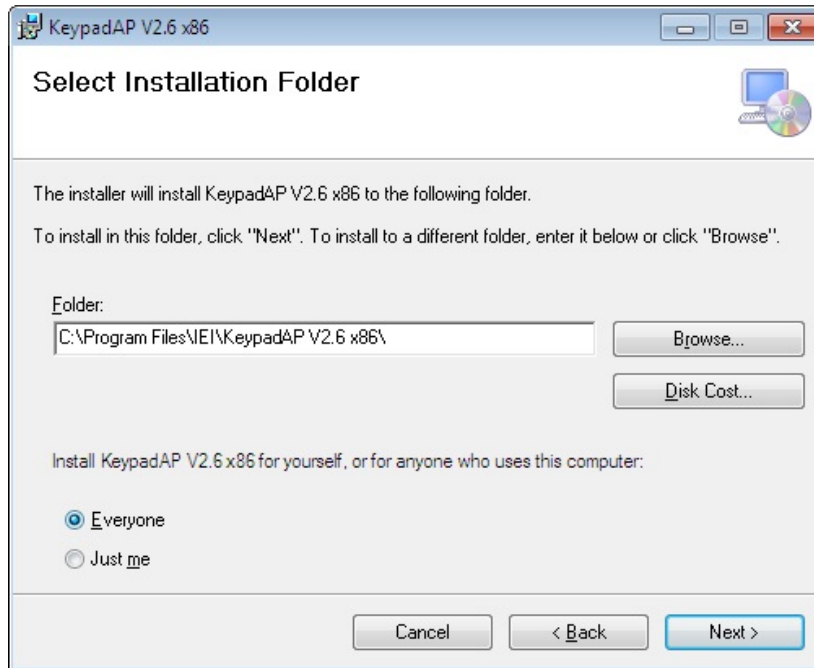

Figure 6-38: Select Installation Folder
Step 6: The **Select Installation Folder** screen in **Figure 6-38** appears.